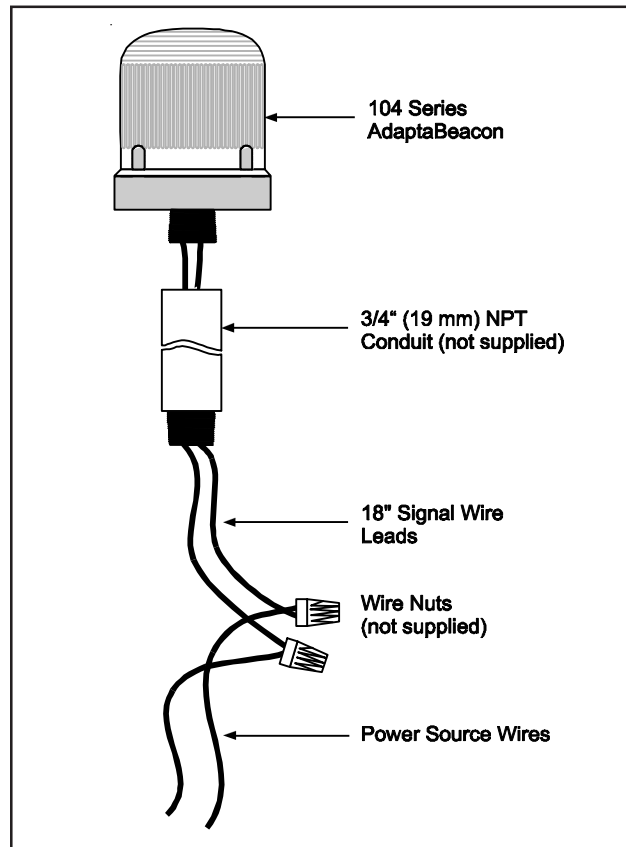

Figure 1. Conduit Mounting (3/4" Shown)
### Conduit Mounting (Figure 1)
- a. For AC models, use wire nuts (not supplied) and connect the signal's black and white wire leads to the power source wires as shown in Figure 1. Polarity is not relevant.
- b. For DC models, connect the signal's red wire to the positive power source wire and connect the signal's black wire to the negative power source wire using wire nuts (not supplied). Polarity must be observed. Refer to Figure 1.
1. **Conduit Mounted Modules:** Disconnect wiring and, if necessary, unscrew base from conduit (Figure 1).